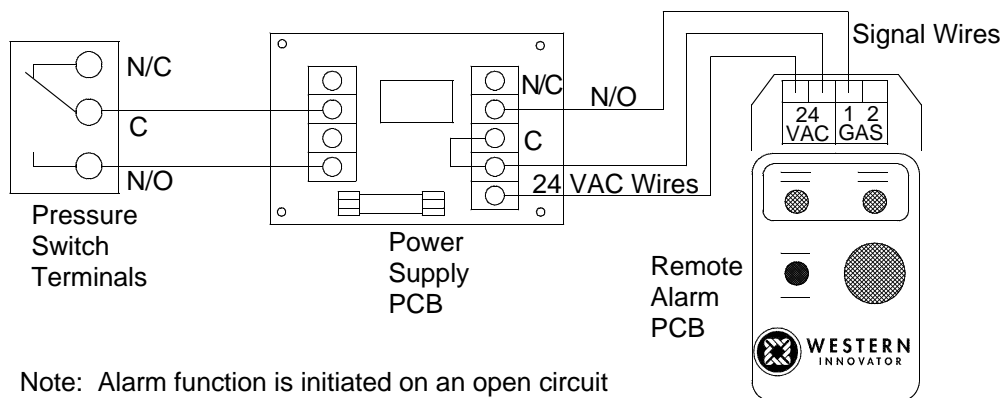

FIGURE 9 Western's Remote Alarm
2. Connect one signal wire to the common (C) terminal on the pressure switch. (Figure 9)